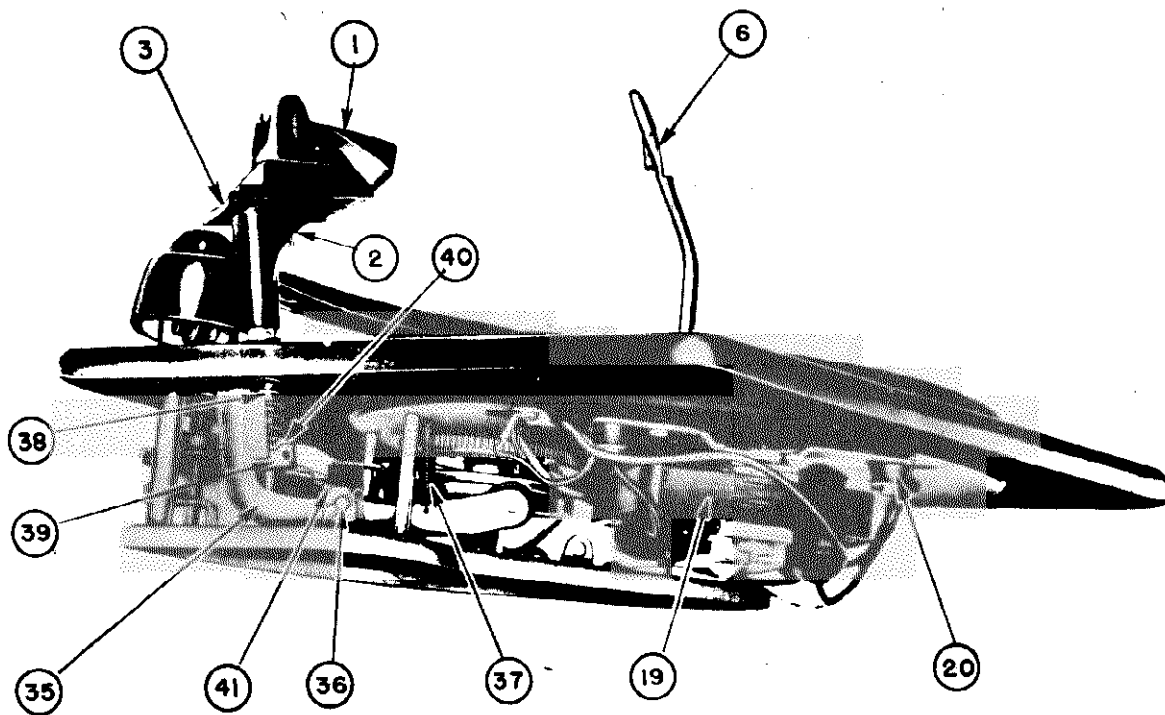

FIG. 5 - PARTS LOCATION -- LEFT SIDE VIEW
1 - With the mechanism at rest, wedge the Rocker Arm firmly by inserting a screwdriver between the Rocker Arm and the Sub Plate at a point between the Rocker Arm Pivot (Illus. 36 Fig. 5) and the stud.
- 5 - Selector Lever Stop (illus. 40 Fig. 5).
- 1 - Unhook the Rocker Arm Return Spring. (Illus. 37 Fig. 5).
- 2 - Remove the Rocker Arm Pivot Pin. (Illus. 36 Fig. 5).